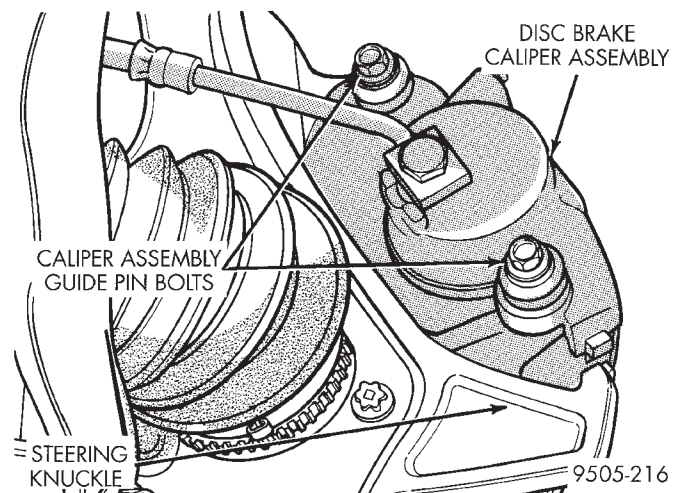

Fig. 84 Removing Caliper Guide Pin Bolts
(3) Slightly pry the piston back into the bore of the disc brake caliper. The piston is to be pryed back by inserting a soft tool (such as a trim stick) between the inboard brake shoe and the rotor and prying against the inboard brake shoe. This will force the piston back into the caliper.
(4) Remove the 2 brake caliper to steering knuckle guide pin bolts (Fig. 84).
(8) Install the caliper guide pin bolts (Fig. 84) and tighten to a torque of 22 N·m (16 ft. lbs.).
(9) Install the wheel and tire assembly.
(10) Tighten the wheel mounting stud nuts in proper sequence until all nuts are torqued to half specification. Then repeat the tightening sequence to the full specified torque of 135 N·m (100 ft. lbs.).
(11) Remove jackstands or lower hoist.
(12) Check brake fluid level.